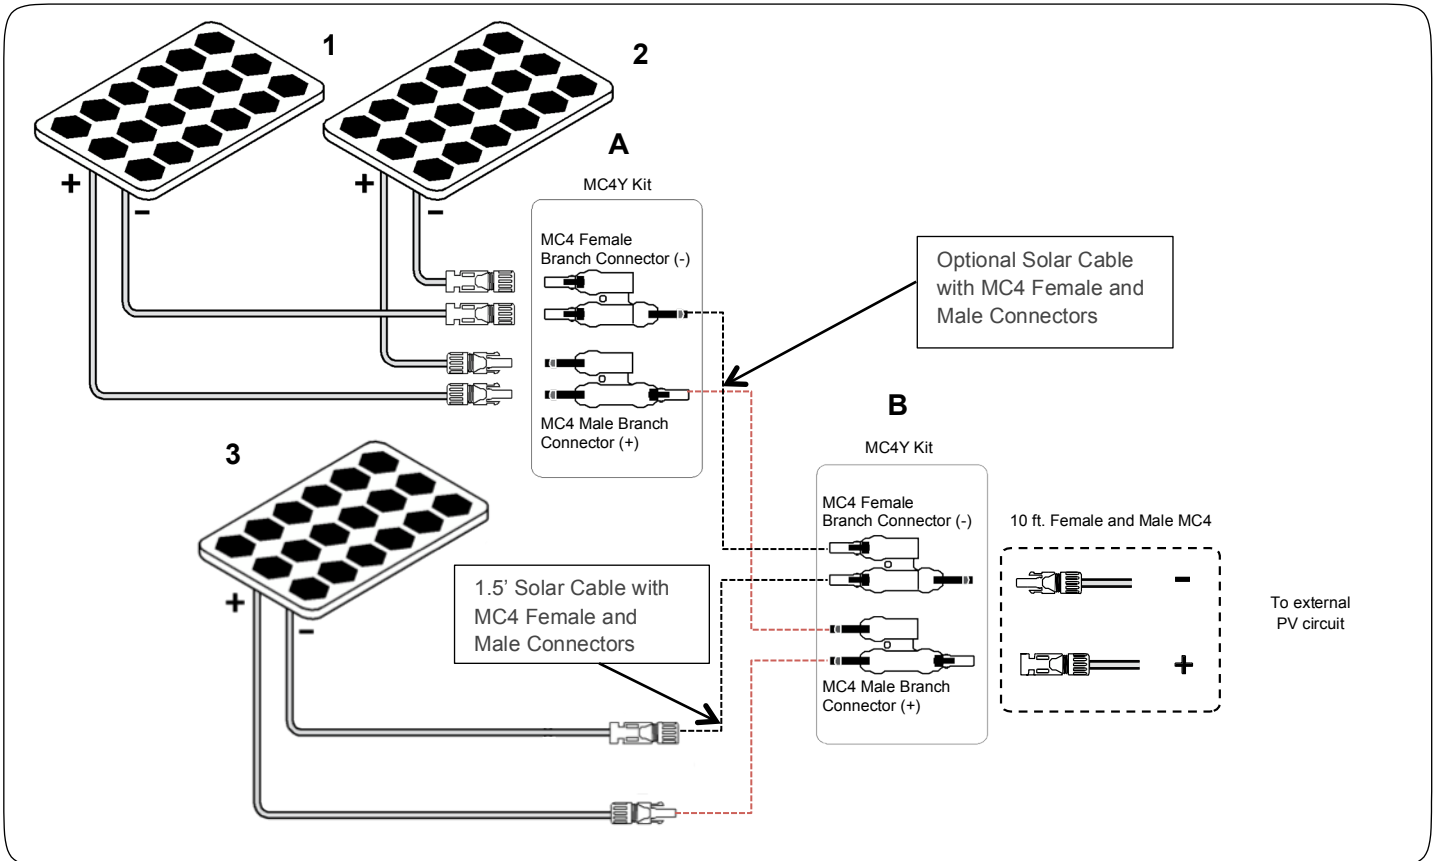
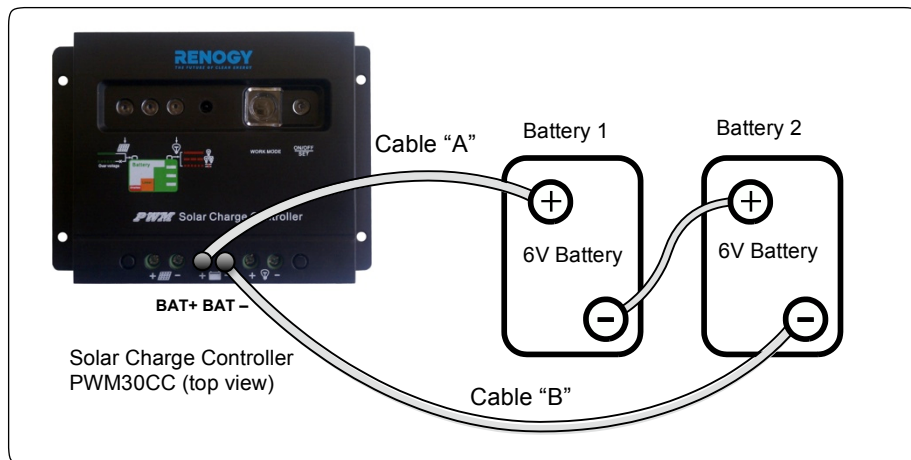

Fig. 9.1 Connection of three solar panels in parallel
Fig. 10.1. Series Connection.
Three solar panels can be connected in parallel to increase the current output while the output voltage remains the same. Fig. 9.1 above shows the arrangement for connecting **three solar panels in parallel** using the following:
The output wires of solar panels no. 1 and 2 from Figure 10.1 are first connected in parallel with one pair of MC4 Male and Female Branch Connectors (MC4Y, labeled 'A'). The ends these Branch Connectors are then connected to two 1.5' Solar Cables with Male and Female ends. Similarly, the ends of the solar panel no. 3 connect to two 1.5' Solar Cables with Male and Female ends. Making these connections will result in a pair of Positive (+) and Negative (-) outputs shown in Figure 9.1 in red and black dashed lines respectively. These outputs are then connected to a second pair of MC4
When two or more batteries are connected in a series, their voltages add up, but the Amp-Hour (AH) capacity remains the same. Fig. 10.1 above shows 2 batteries of 6V each, these 200 AH batteries connected in series to form a battery bank of 12V with a capacity of 200 AH. The Positive terminal of Battery 1 becomes the Positive terminal of the 12V bank. The negative terminal of Battery 1 is connected to the Positive terminal of Battery 2. The negative terminal of Battery 2 becomes the negative terminal of the 12V battery bank.